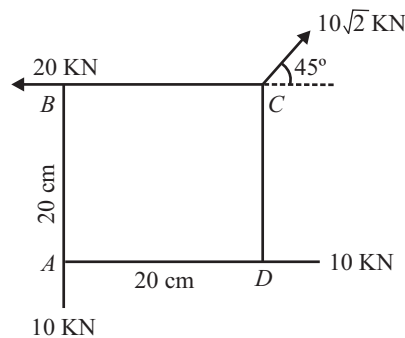

Fig. 7.20
Q. 19: Find the magnitude and direction of resultant of Co-planar forces shown in fig. 7.20.